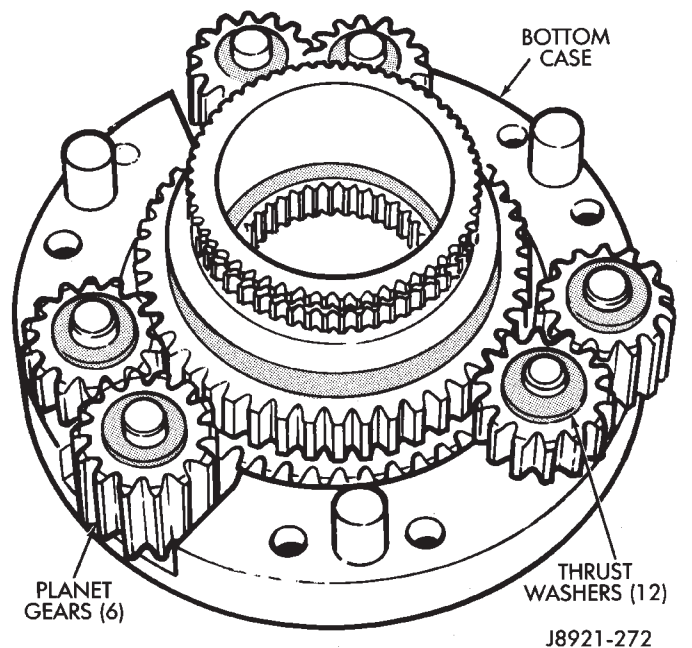

Fig. 46 Planet Gears And Thrust Washer Removal
- (5) Remove thrust washers and planet gears from case pins (Fig. 46).